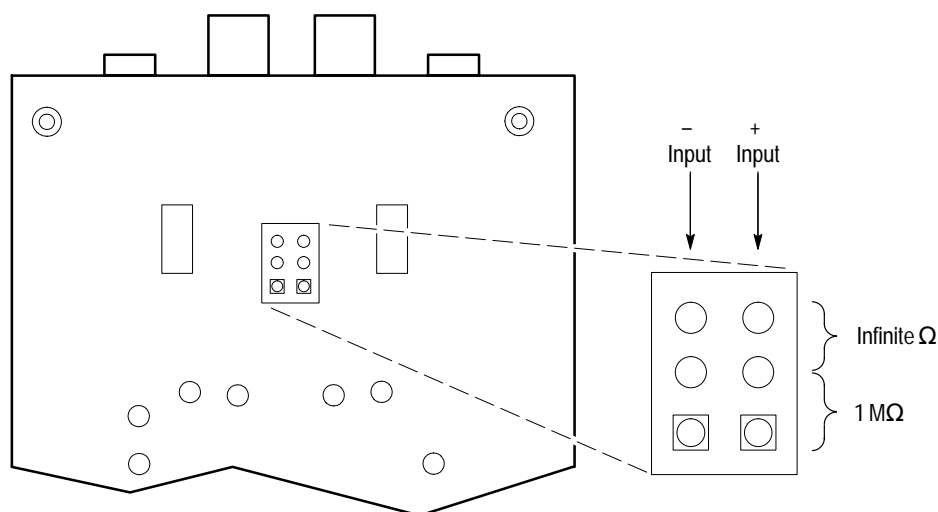

Figure 5: Selecting the Input Impedance
**Selecting the Infinite  $\Omega$  Position.** To select the infinite impedance, remove the knobs and top housing of the preamplifier. *Do not remove the inner shield.* With a pair of needle-nose pliers or tweezers, move the jumpers from the 1 M $\Omega$  to the infinite  $\Omega$  position as Figure 5 illustrates.